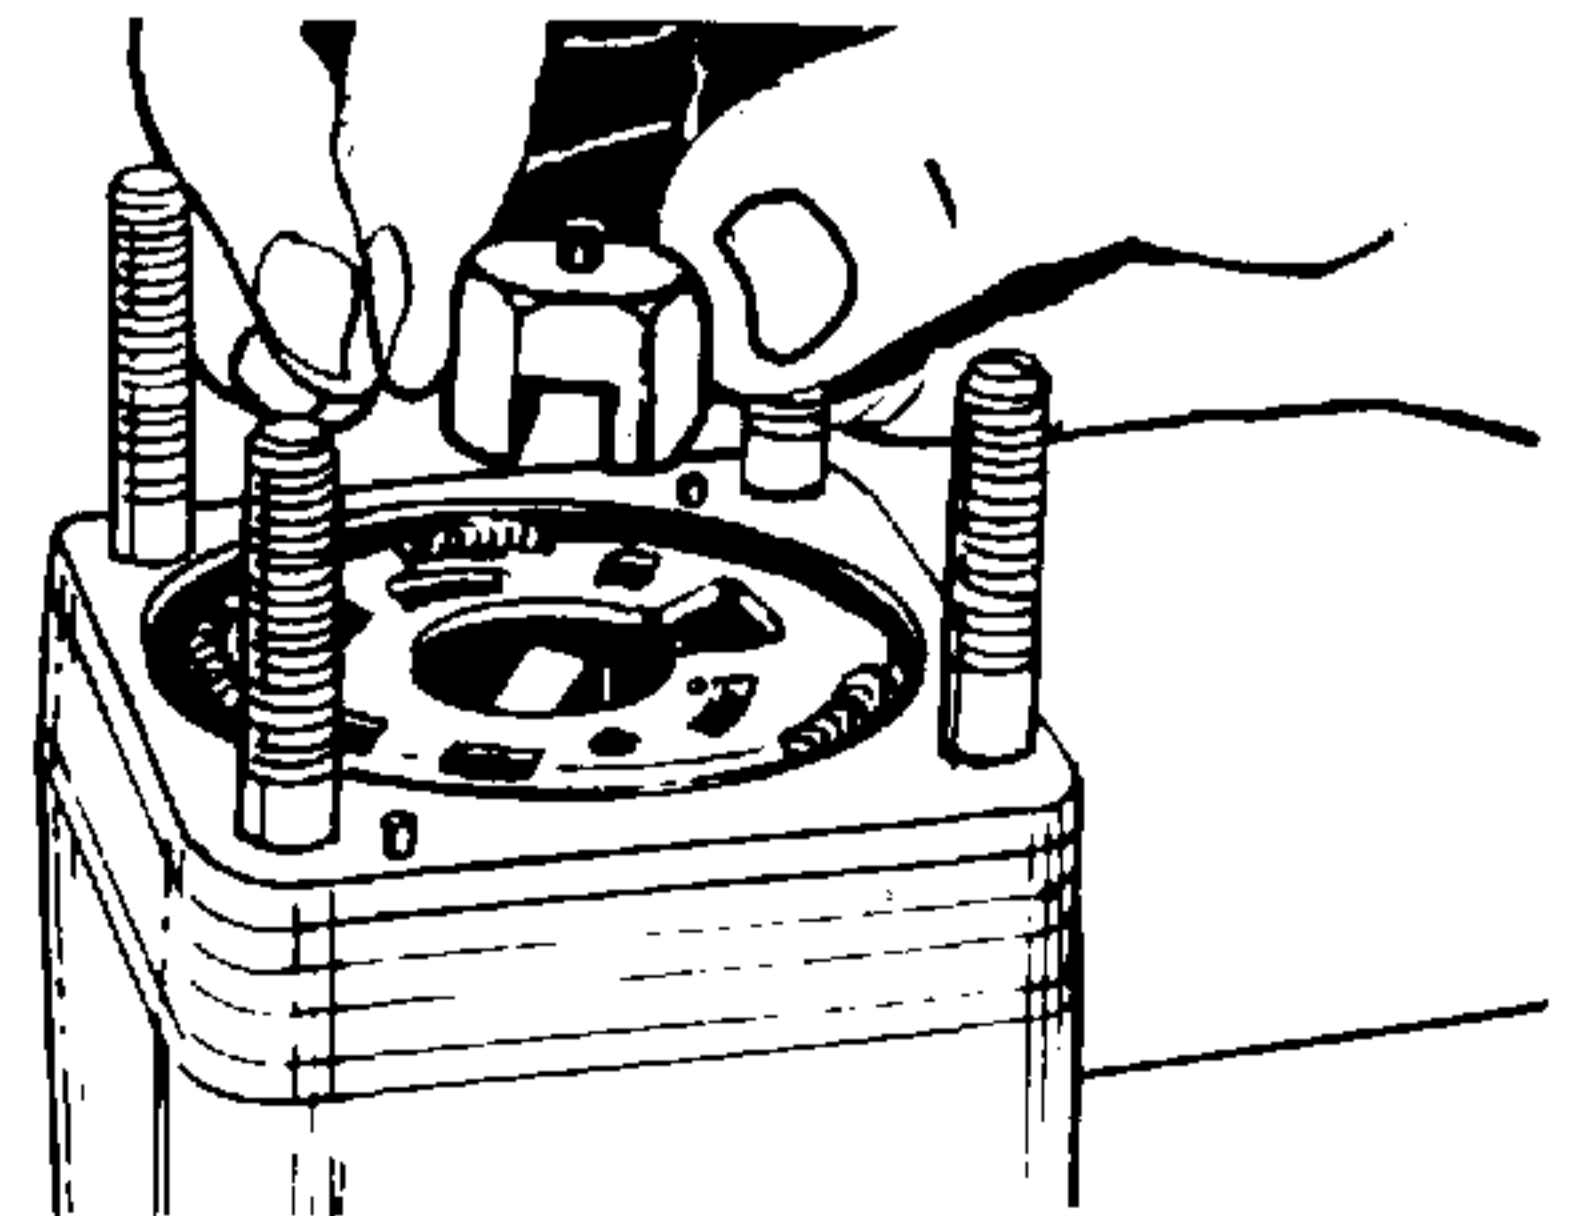

Figure 4-81. Installing Hex Drive Assembly.
33. Place hex drive assembly (9, Figure 4-1), pin side up, through the hole in the isolation manifold (13). The slot in the hex drive must be engaged with the small tang of the drive link (14). Turn the input shaft assembly (31) to assist the engagement. See Figure 4-81.